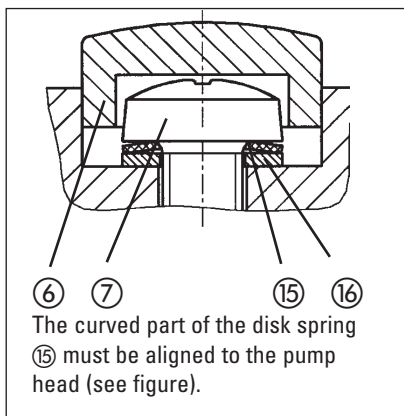

Fig. 9: Orientation of disk spring 15
► For placement of disk spring ⑮ and washer ⑯ and for orientation of disk spring see fig. 9.
- 12 Install the screw caps ⑥.
- 13 Carry out steps ② to ⑫ for the second pump head.
- 1 Only for pumps N 816.3 KN.18 and N 816.3 KT.18: Put the sealing ⑧ into the head plate ④; push the connecting tube ⑩ into the hole in the head plate ④.
► It is necessary to ensure that the O-ring ⑨ lies on the end of the connecting tube.
- 2 Place the two pump heads that are joined by the pneumatic connecting tube(s) ⑩ on the housing according to the markings (M).
► Make sure the cover ⑬ is placed on the pump head and is not jammed. For this, carefully slide a small screw driver between the cover ⑬ and the pump head.
► If the cover is jammed between the intermediate plate ① and head plate ④, then the pump will not provide the nominal pneumatic performance.
► The spring washer ⑰ and washer ⑱ under the screws ⑤ are placed and aligned like the disk spring and washer at the screw ⑦ (see fig. 9).